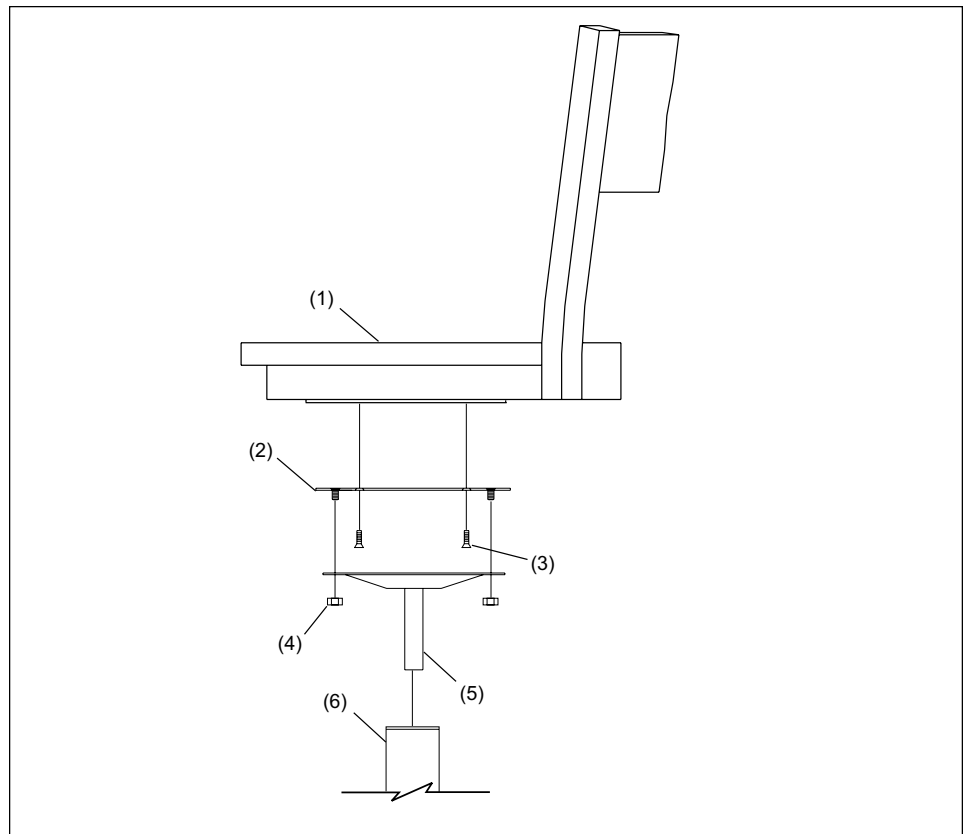

Figure 25. Secure Seat to Chair
1. Assemble seat adapter plate (P/N 53-100293-000) to wood seat with screw (P/N 11-008148-000). Torque screws to 75 inch lbs (8.48 nm). Refer to *Figure 25*.